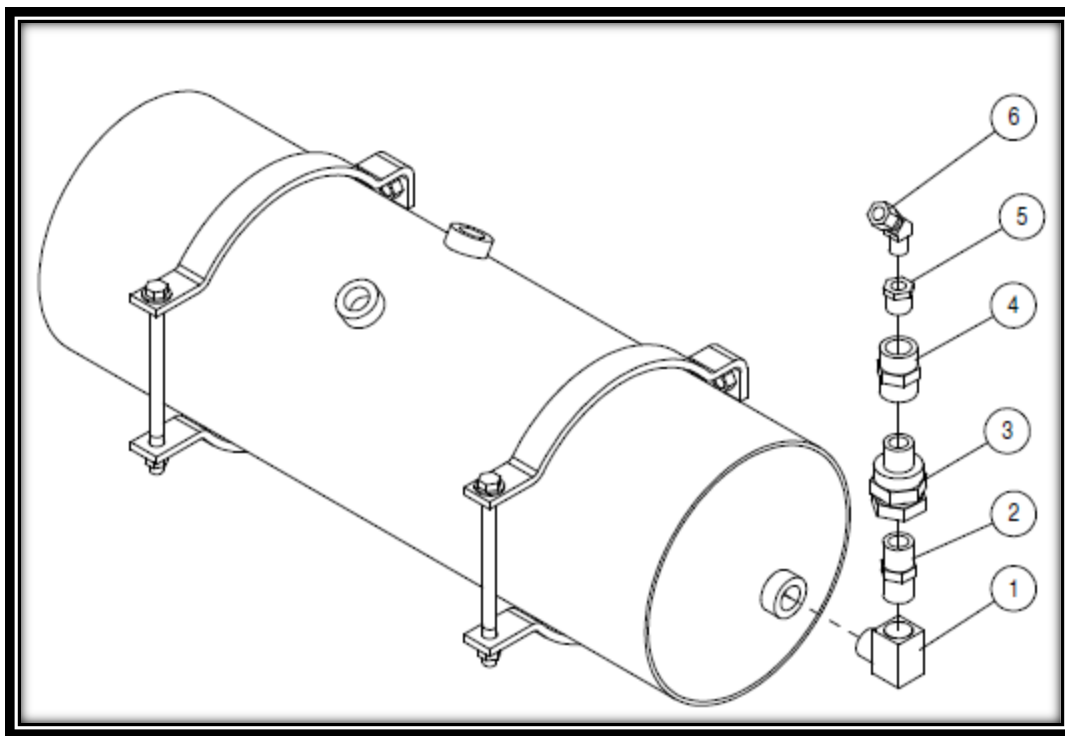

FIG 6.1
13. Install 1631-MM5 (Item 2) into auxiliary or air horn tank port using 0716-MM5-P04 (Item 1) and 0716-MM5-H04 (Item 2). Refer to Fig 6-1.
14. Install fitting (Item 6) to the check valve using 0716-MM5-MM04 (Item 4) and 0716-MM5-J03 (Item 5). Refer to Fig 6.1.